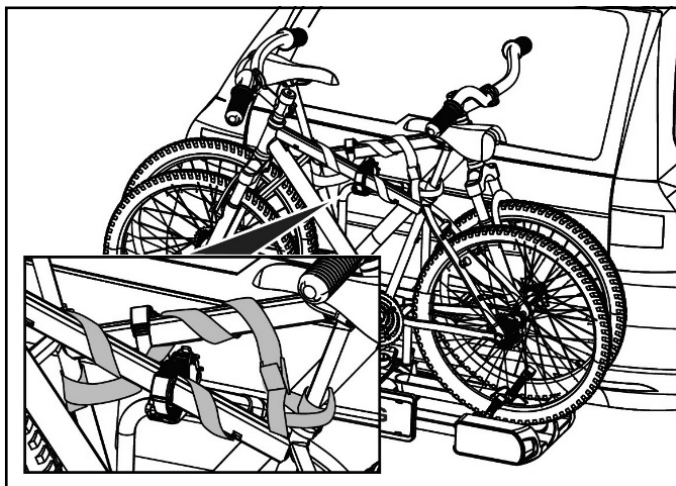

Figure 28: Applying the safety strap
- Before setting off, check the correct and firm positioning of the safety strap around the bicycles and U-shaped bracket of the carrier (Figure 28).